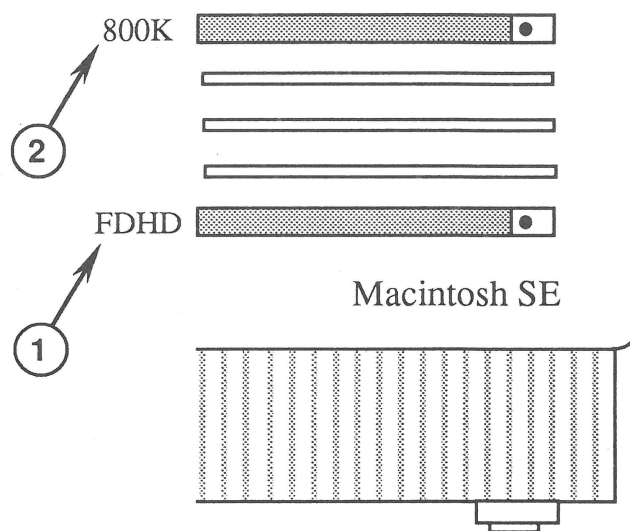

FIGURE 21
13. Place the FDHD label in the groove next to the lower disk drive slot on the front bezel of the Macintosh SE as shown in Figure 21, #1. If an 800K drive is mounted above the FDHD drive, place the 800K label (Figure 21, #2) next to the upper disk drive slot on the front bezel.